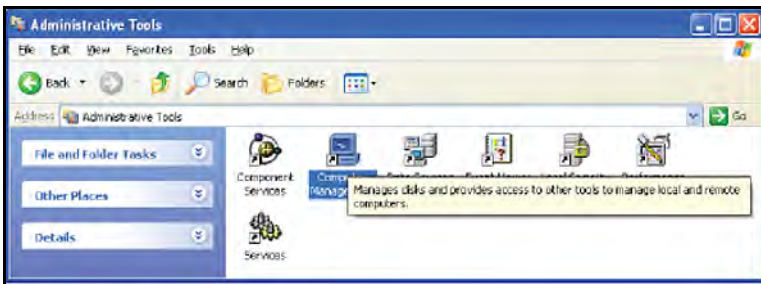

Figure 114: Administrative Tools (Computer Management Icon)
2. From the Administrative Tools window, click on Computer Management (see *Figure 114* below).